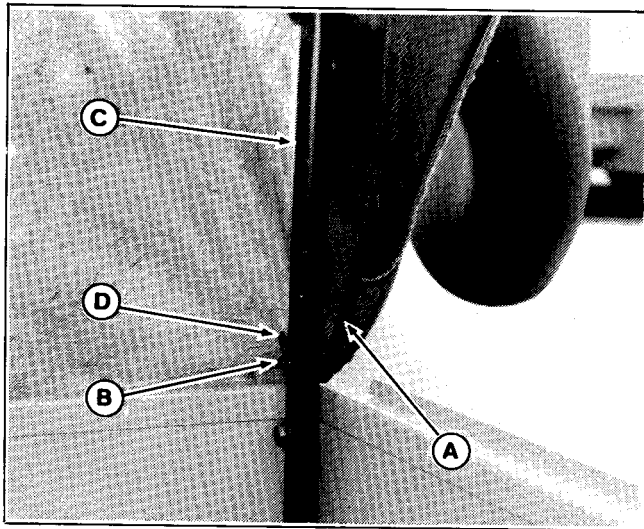

Figure 10.
- On each side, place the eyebolt end of the support rod (A, figure 10) onto the frame rod (B), then insert frame rod through the frame (C). Insert clip (D) through frame rod to secure.